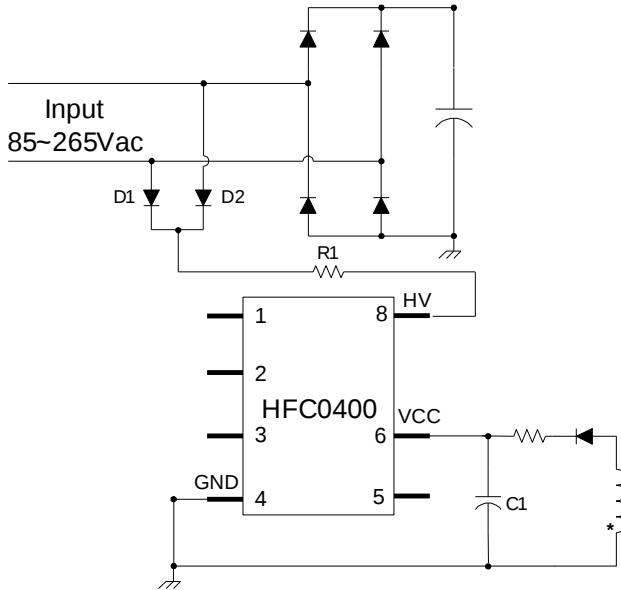

Figure 11: Start-Up Circuit
Figure 11 shows the start-up circuit. The values of R1 and C1 determine the system start-up delay time: a larger R1 or C1 increases the start-up delay. The V_{CC} duration (from V_{CC,OFF} to V_{CC,SS}) for brown-out detection should exceed half the input period, equation (4) provides an estimated value for the V_{CC} capacitor, where I_{CC(noswitch)} is the internal consumption (close to I_{CC(clatch)}) and τ_{input} is period of the AC input. For most applications, chose a V_{CC} capacitor value that exceeds 10μF.